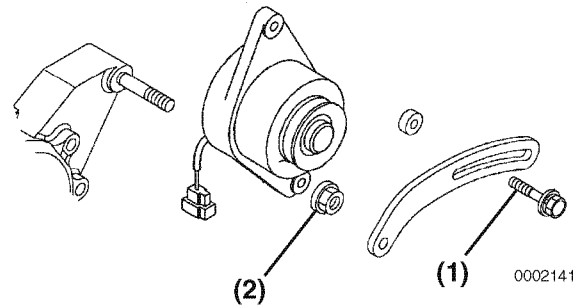

Figure 11-29
1. Position the dynamo on the gear case. Loosely reinstall the nut (**Figure 11-29, (2)**) on the gear case stud and the V-belt adjuster bolt (**Figure 11-29, (1)**).